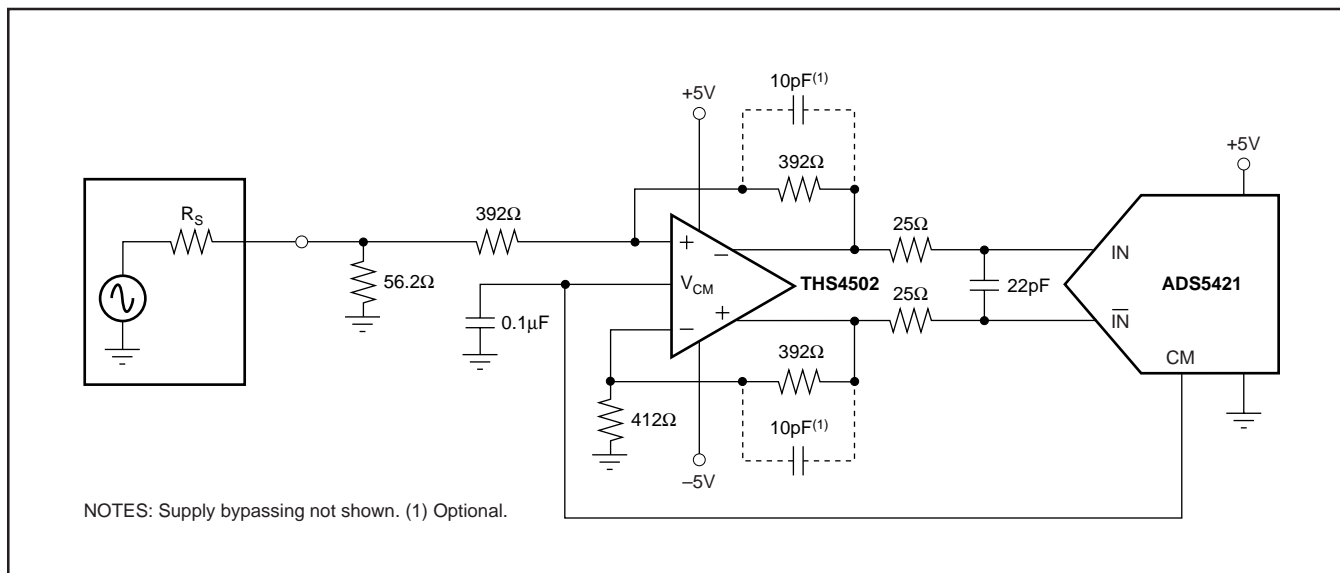

FIGURE 3. Using the THS4502 Differential Amplifier (Gain = 1) to Drive the ADS5421 in a DC-Coupled Configuration.
The following section provides some principal circuit suggestions on how to interface the analog input signal to the ADS5421. Applications that have a requirement for DC-coupling a new differential amplifier, such as the THS4502, can be used to drive the ADS5421, as shown in Figure 3. The THS4502 amplifier allows a single-ended to differential conversion to be performed easily, which reduces component cost. In addition, the  $V_{CM}$  pin on the THS4502 can be directly tied to the common-mode pin (CM) of the ADS5421 in order to set up the necessary bias voltage for the converter inputs. As shown in Figure 3, the THS4502 is configured for unity gain. If required, higher gain can easily be configured, and a low-pass filter can be created by adding small capacitors (e.g., 10pF) in parallel to the feedback resistors. Due to the THS4502 driving a capacitive load, small series resistors in the output ensure stable operation. Further details of this and other functions of the THS4502 may be found in its product